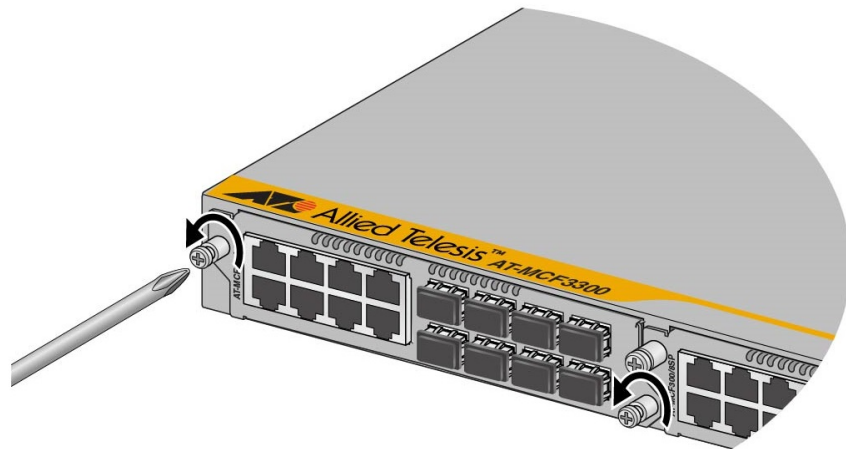

Figure 9. Loosening the Two Captive Screws on a Media Converter Module
4. Using a cross-head screwdriver, loosen the two captive screws that secure a media converter module to the chassis. Refer to Figure 9.